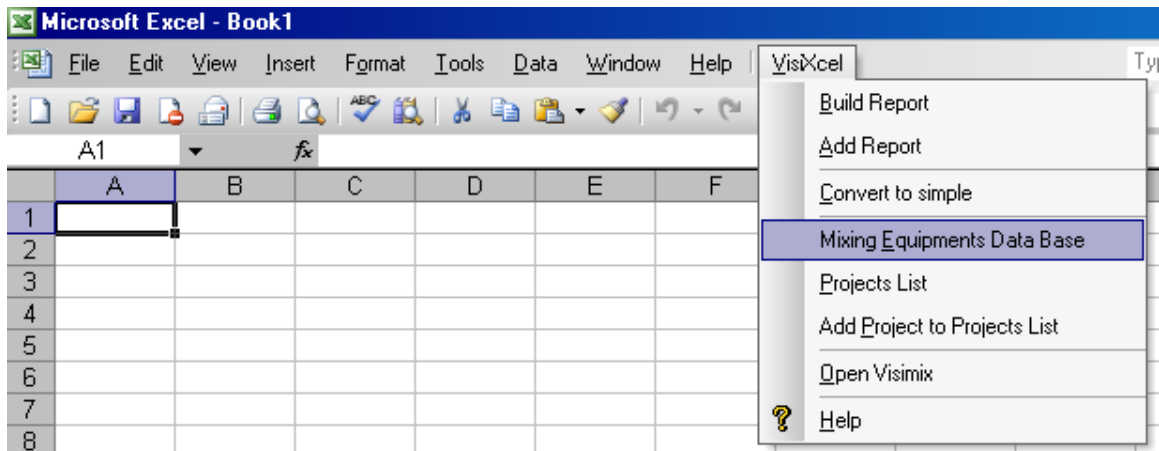

Figure 2.1.
2.1. Open Excel. Select **VisiXcel**. in **Excel** menu and select **Mixing Equipment Database** (Figure 2.1)